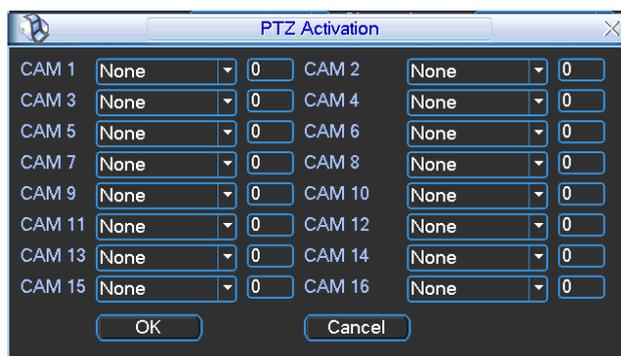

Figure 4-63
- PTZ activation: Here you can set PTZ movement when an alarm occurs. System can go to a preset, when there is an alarm. Click “select” button, you can see an interface is shown as in Figure 4-63.